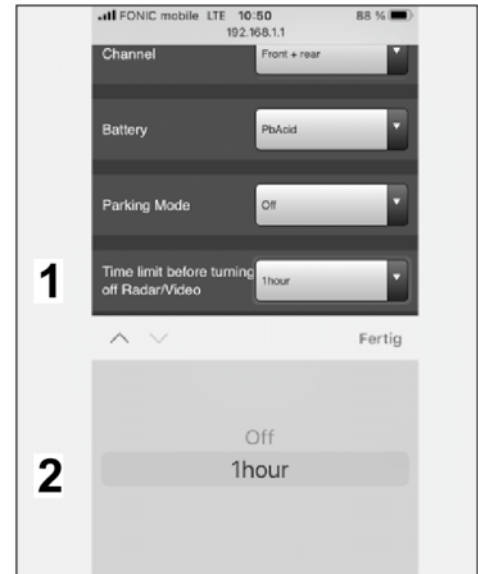

Figure 26
5.3.6 Select the time limit (⇒ *Figure 26*)